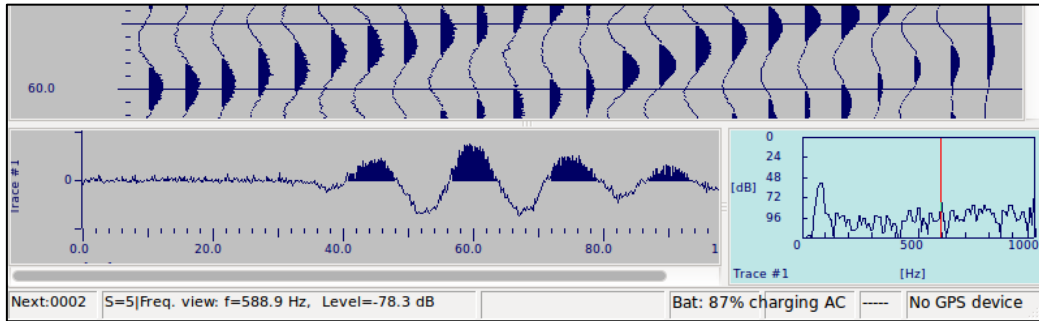

Figure 30 The Frequency View with the frequency line
- Moving a frequency line across the view (Figure 30)